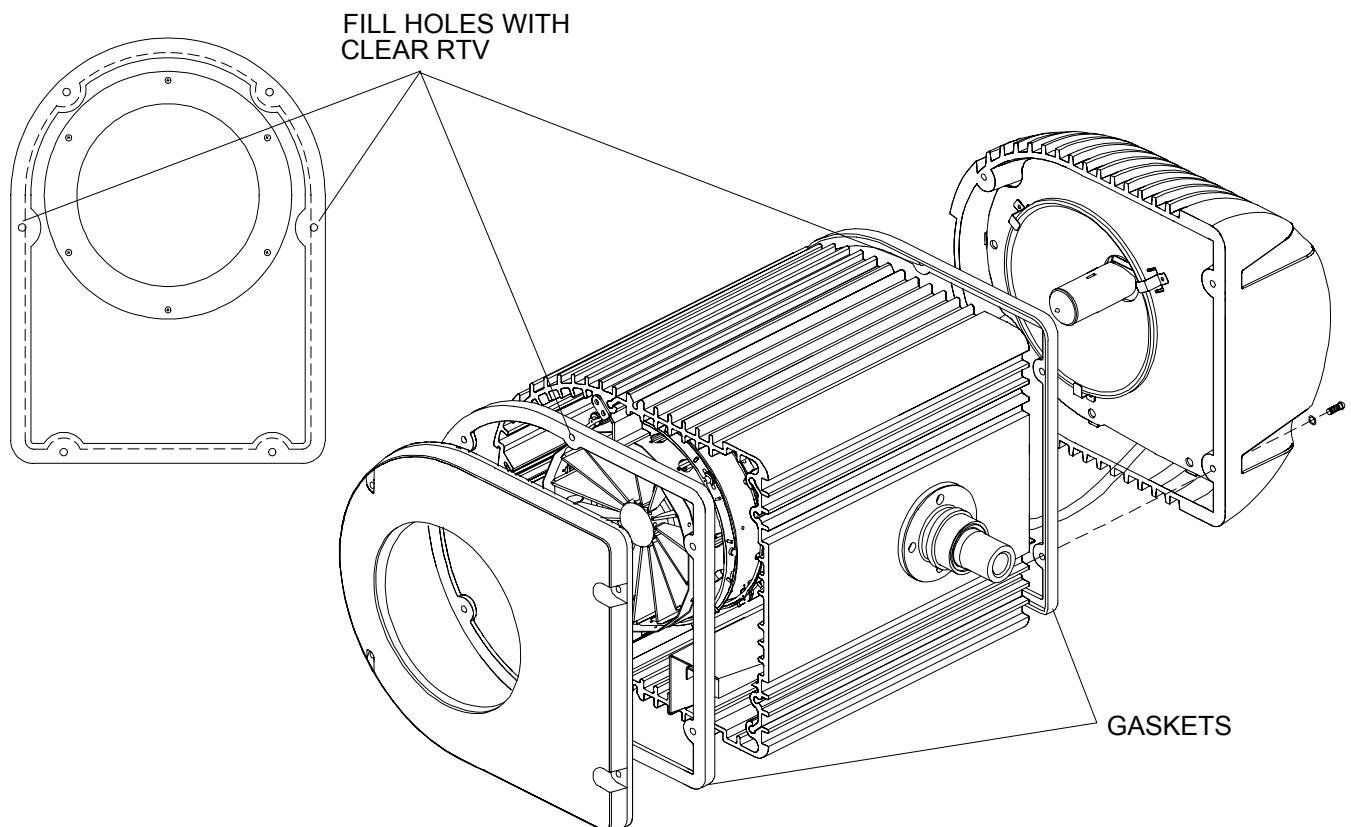

Figure 4.2 - Head Gasket Installation
6. Using clear RTV, fill in two unused holes (two holes on each gasket). See Figure 4-2.